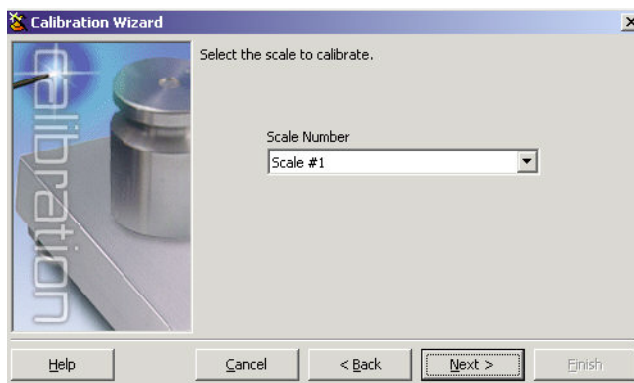

Figure 4-4. *iRev 4* Scale Selection Display
2. Next (see Figure 4-4), select the scale you wish to calibrate.